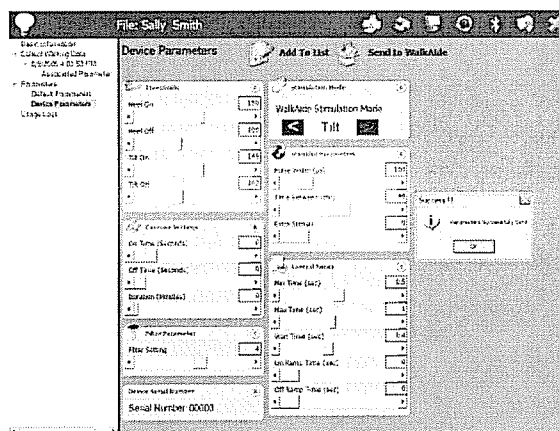

Figure 18 – Default parameters screen.
- Click '**Default Parameters**' from the list on the left (Figure 18). Check to see that the WalkAide Stimulation Mode is set to the appropriate setting (Hand) and then click on the '**Send to WalkAide**' icon. Click 'OK' when the default parameters have been successfully sent. If the 'Heel' mode is selected, be sure to connect the heel or foot sensor to the unit or an alarm will be heard two times every two seconds.